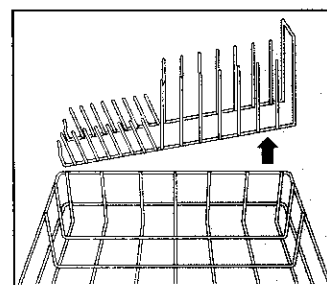

Figure 6.
- Large and/or heavily soiled items should be placed in the lower rack of the dishwasher. Heavily soiled pots and pans should be placed face down in the lower rack. If more space is needed for pots and pans the insert in the lower rack (SMU 4000 Series only) may be removed. The insert has handle at one end for easy removal, as shown in Figure 6.